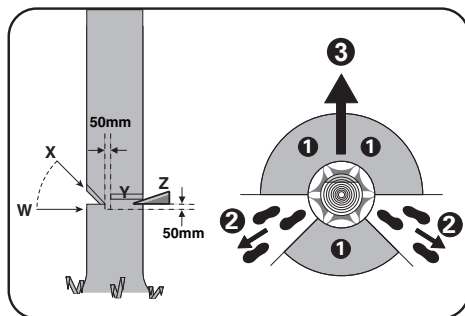

Figure 1
necessary before cuts are started. The escape path should extend back and diagonally to the rear of the expected line of fall as illustrated in Figure 1.
Make the notch 1/3 the diameter of the tree, perpendicular to the direction of falls as illustrated in Figure 1. Make the lower horizontal notching cut (W) first. This will help to avoid pinching either the saw chain or the guide bar when the second notch (X) is being made.
Make the felling back cut (Y) at least 50 mm higher than the horizontal notching cut as illustrated in Figure 1. Keep the felling back cut parallel to the horizontal notching cut. Make the felling back cut so enough wood is left to act as a hinge. The hinge wood keeps the tree from twisting and falling in the wrong direction. Do not cut through the hinge.
When the tree begins to fall remove the Chainsaw from the cut, stop the motor, put the Chainsaw down, then use the retreat path planned (2). Be alert for overhead limbs falling and watch your footing. (See Figure 1)